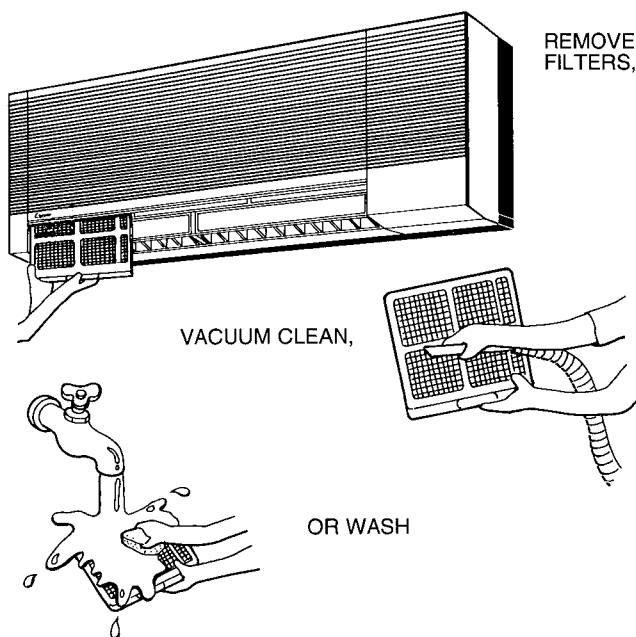

Fig. 18 — Air Filter Maintenance
2. Grasp the filter tabs (see Fig. 18) and carefully pull the filters straight down and out of the indoor unit.
Filters can be vacuumed, or washed in warm water (see Fig. 18). Shake filter to remove any excess water, and replace by sliding filter behind front grille until filter snaps in place.